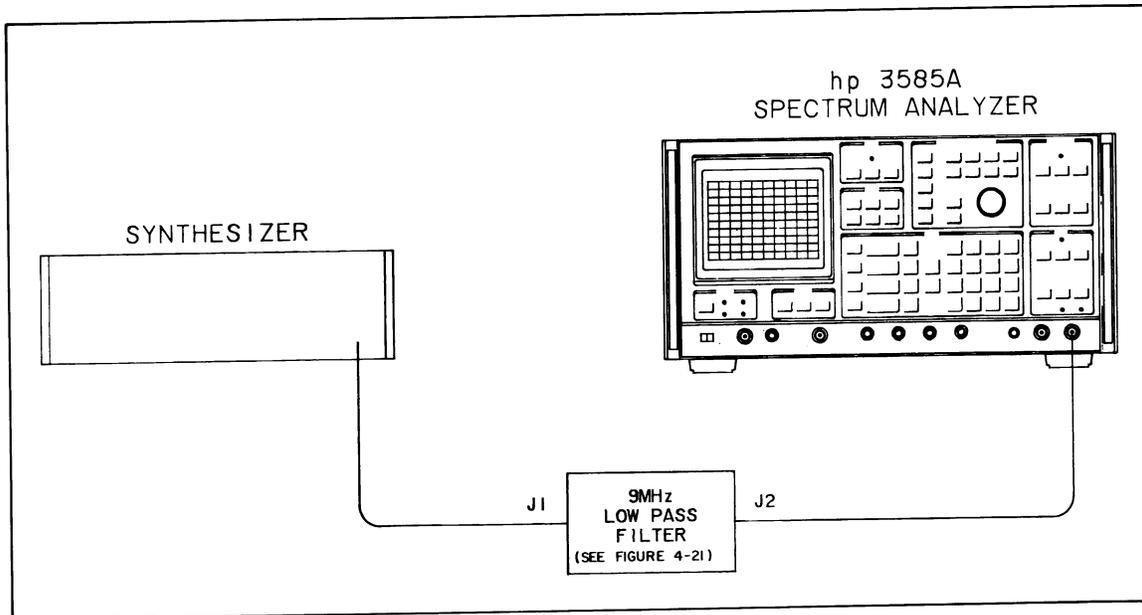

Figure 4-4. Harmonic Distortion Test
f. Connect the 50 Ω output of the synthesizer to the input of the filter. connect the output of the filter to the 50 Ω input of the 3585A (see Figure 4-4).